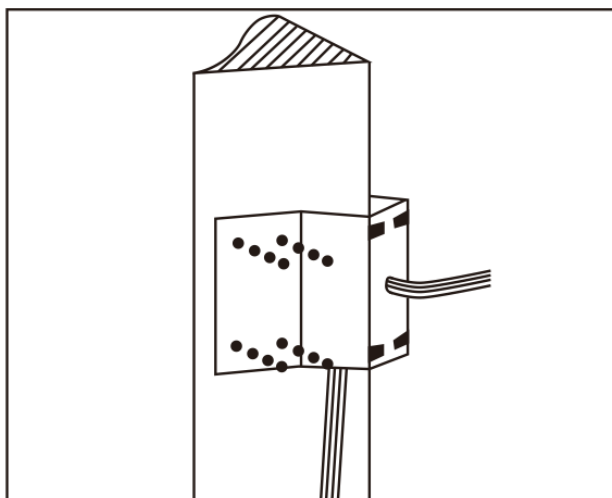

Fig 2.6
b. As shown in fig 2.6, use M8 screw nut to fix the base of corner mounted on the wall with all cables through the center holes of the corner mounted, marine glue and bracket. Enough wiring length should be left.